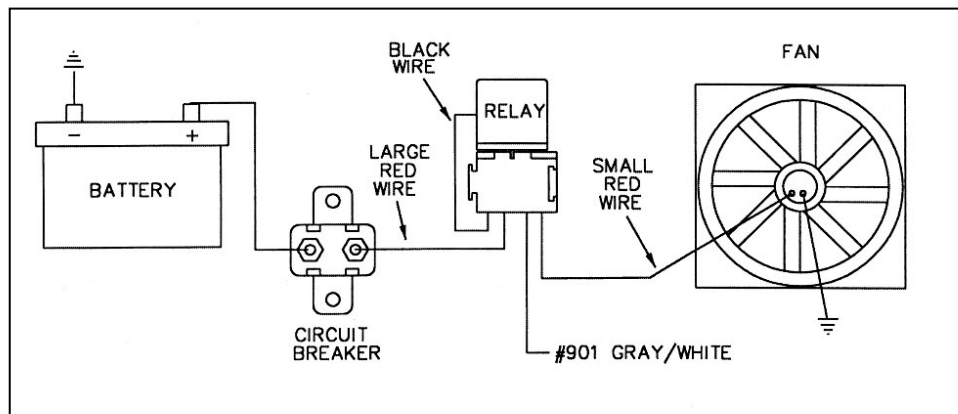
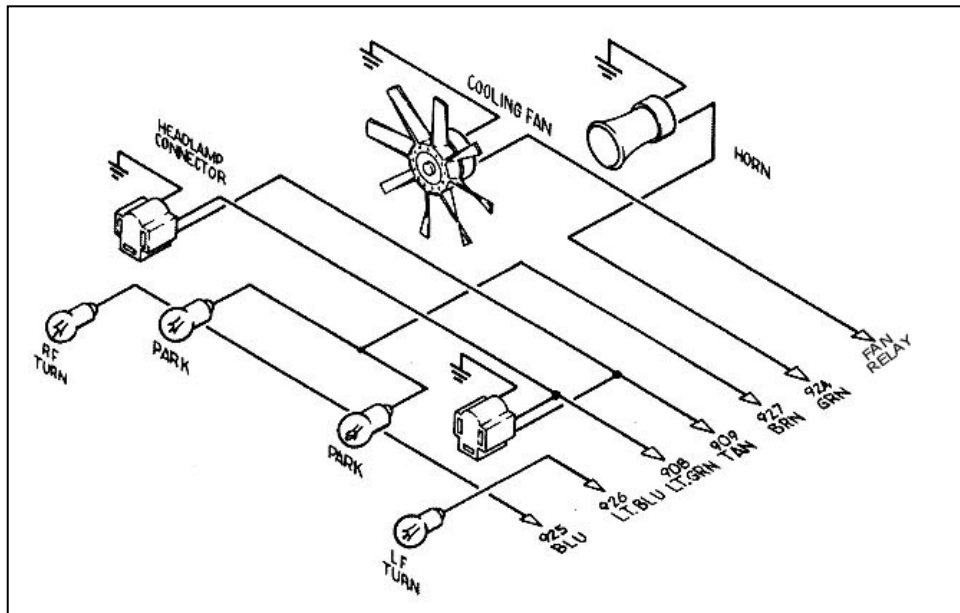

Figure 10-4A Typical Fan Relay Installation (Painless Part #30101)
Figure 10-4B HEADLIGHT SECTION A Wiring
10.5 HEADLIGHT SECTION A. See Figure 10-4B.
- 10.5.4 Connect HEADLIGHT SECTION A wire #901 (gry/wht) to the Electric Fan Relay. This wire is an activation wire for the relay, **NOT A POWER FEED**. The other end of wire #901 is in the ACCESSORY SECTION SWITCHES and should be connected to the electric fan switch in the dash. Connect 906 (gry/wht) from ACCESSORY SECTION B+ to the other side of the fan switch. **Figure 10-4A** shows a typical fan relay installation. **Note:** The wire going to the fan in Figure 10-4B will be coming from the fan relay output terminal. Wire #901 (gry/wht) from the ACCESSORY SECTION SWITCHES is an activation wire for the fan relay.